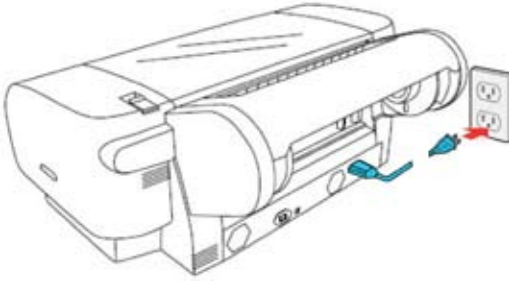
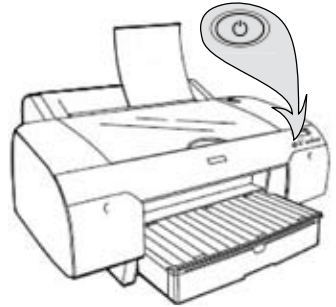

Figure 1
Figure 2
1. Attach the power cord to the printer & plug the printer in to an appropriate outlet. (Fig.1) Ensure the printer power is on by pressing the power button on the control panel. (Fig. 2)